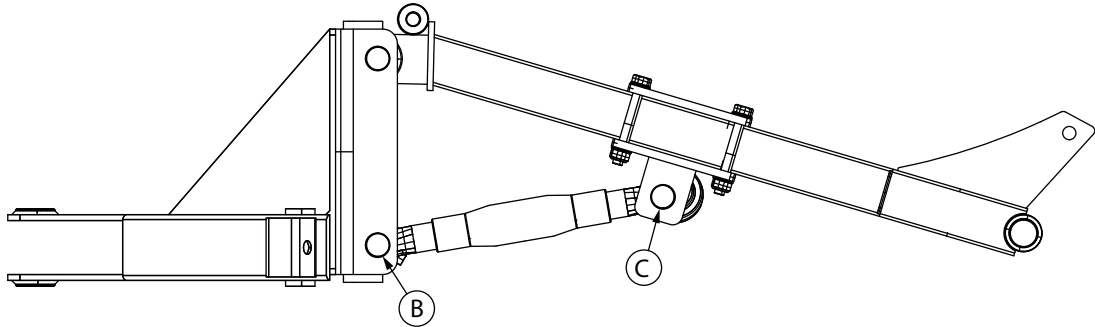

Fig. 4
3. Attach the turnbuckle between the bracket attached to the left hand lift arm **C** and the lower mounting hole **B** on the blade using the lynch pins and snap pins supplied in the kit (Fig. 4).